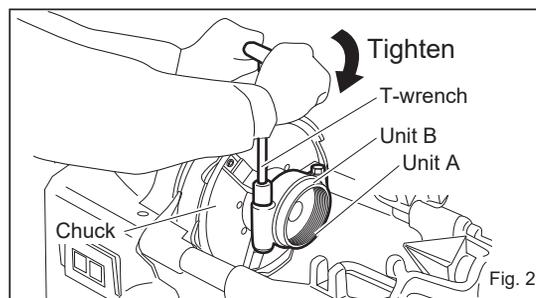

Fig. 2
2. Tighten the bolts with a T-wrench to ensure there is no gap between units A and B. (Fig. 2)